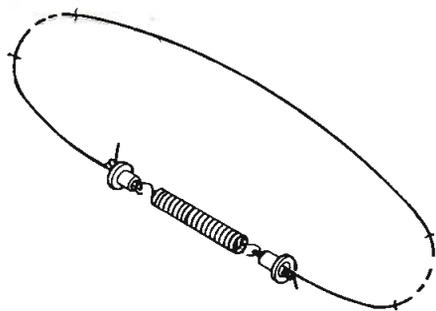

Fig. 2-8 Loop of dial cord
4. Make a large knot at each end of the dial cord, then pass the doubled ends of the cord through the two eyelets. Hook each end of the coil spring around one of the cord loops protruding through an eyelet. The dial cord and coil spring now form one large loop as shown in Fig. 2-8.